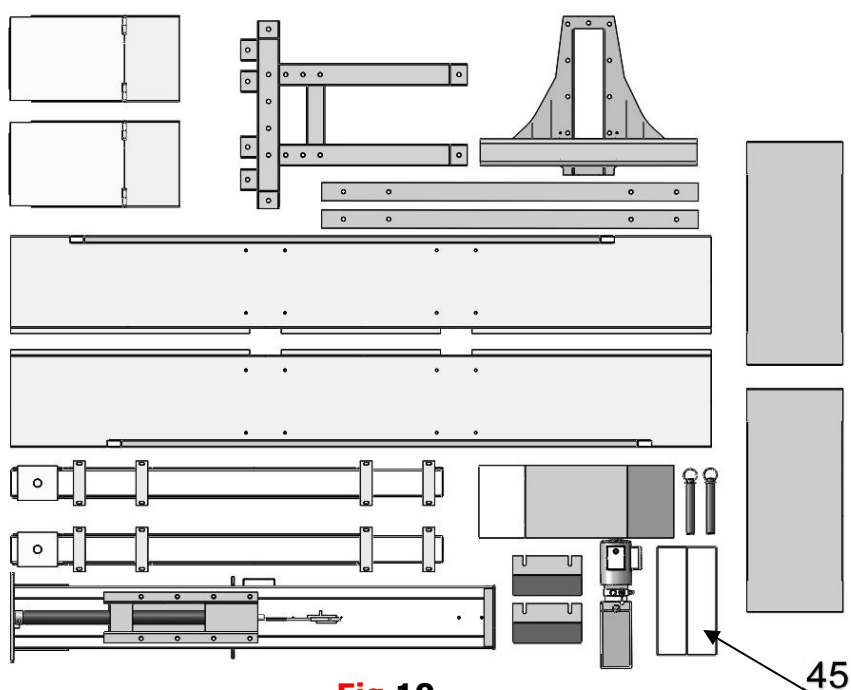

Fig.10
4. Move aside the parts and check the parts according to the shipment parts list. **(See Fig.10)**